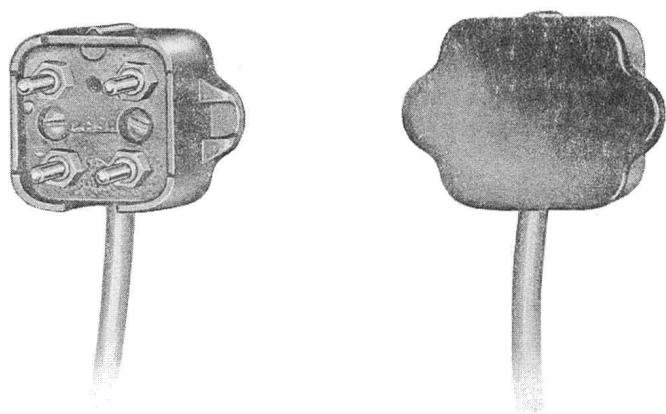

Fig. 2 — 283B Plug
2.03 The 283B plug (Fig. 2) is a two piece, 4-contact plug of molded plastic in colors to match telephone set colors (see Table A). The mounting cord is secured by either a wingband inserted in a slot in the cover or an S hook secured with a self-tapping screw packed with the plug.